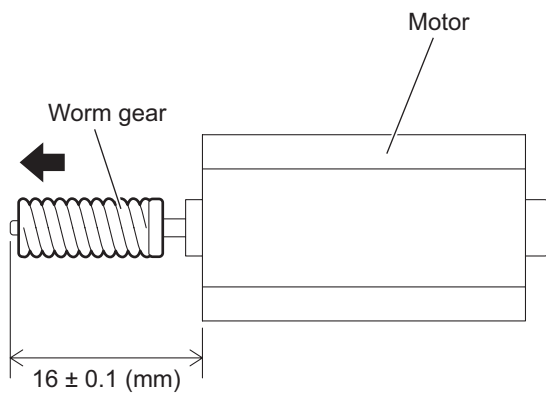

Fig.10
- (7) Pull the worm gear out of the motor. (See Fig.10.)
When inserting the worm gear in the shaft of the motor, insert it by a measurement of a rule. (See Fig.10.)